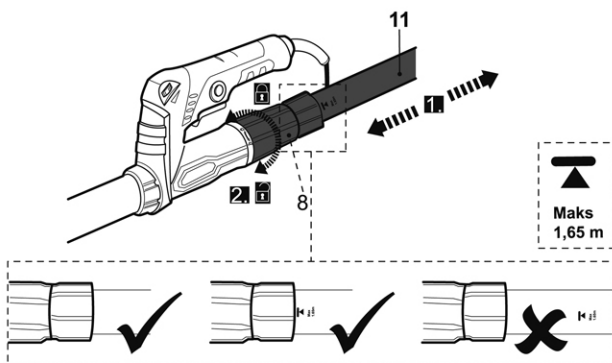

Fig. 4
2. Adjust the length of the extension shaft (11) if necessary. Pay attention to the marking "Max 1.65 m" on the extension shaft. Tighten the sleeve (8) after assembling/adjusting the extension shaft (Fig. 4).